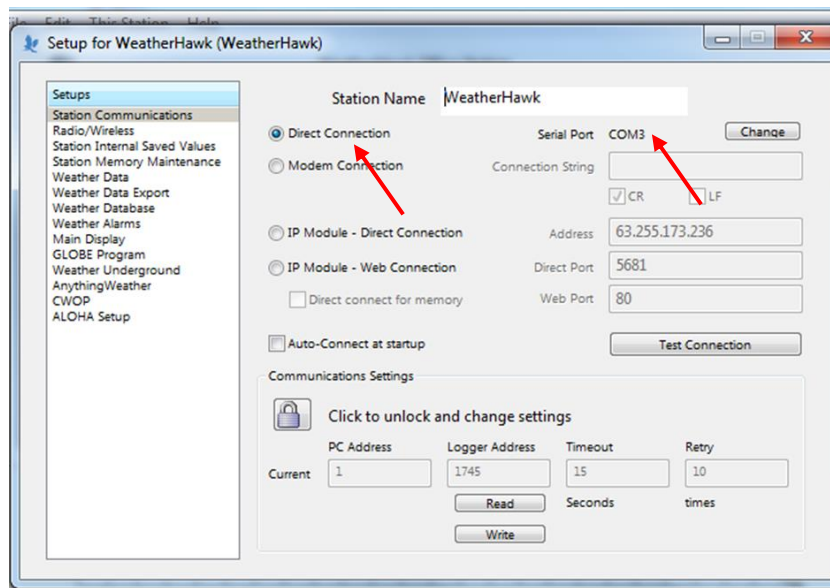

Figure 5: Select the correct Serial Port that is being used to communicate with the WeatherHawk.
- Select *Direct Connection* from the setup screen and select the *Serial Port* on your computer which the serial cable is connected to. (Figure 5). If necessary, click the *Change* button next to the *Serial Port* to select a different port.